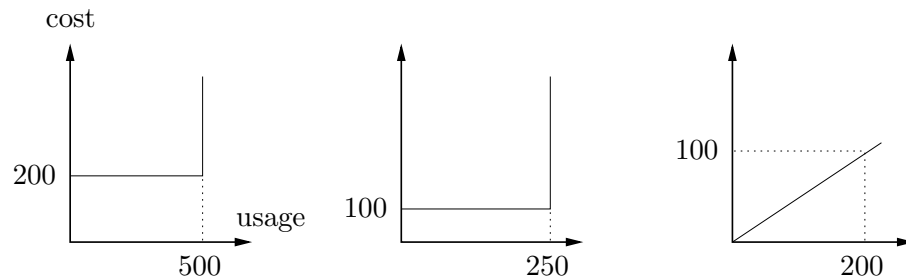

Figure 1 Diagram of the cost of the saws relative to their usage. The costs are in kSEK.
- There are 3 saws. The cost of using each saw is shown in Figure 1.